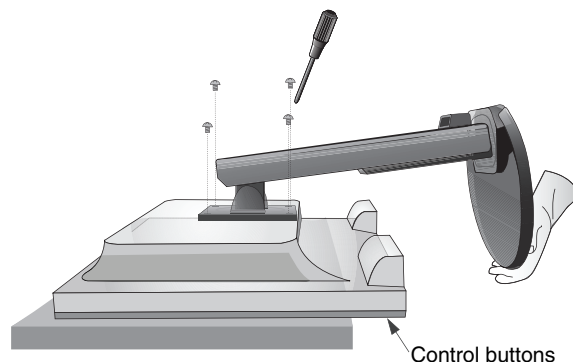

Figure S.1
3. Place monitor face down on a non-abrasive surface (**Figure S.1**).
4. Remove the 4 screws connecting the stand to the monitor (**Figure S.1**).